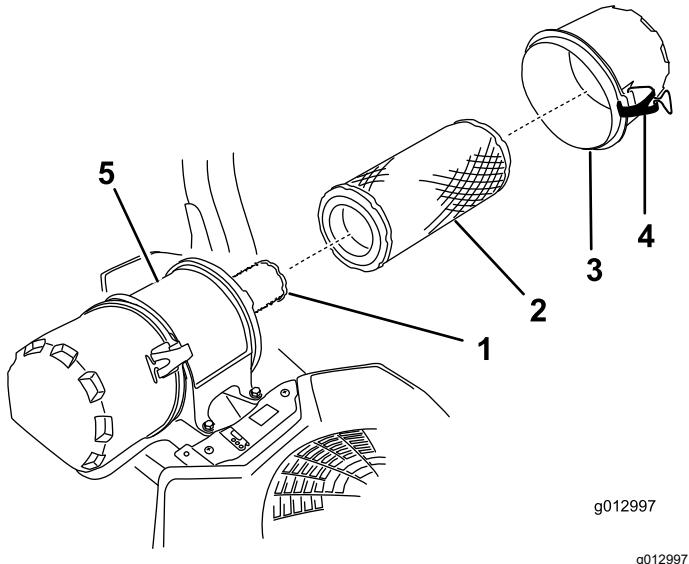

Figure 38
6. Release the latches on the air cleaner and pull the air-cleaner cover off the air-cleaner body (Figure 38).
8. Gently slide the primary filter out of the air-cleaner body (Figure 38).
2. If you are replacing the inner filter, carefully slide it into the filter body (Figure 38).
3. Carefully slide the primary filter over the safety filter (Figure 38).
4. Install the air-cleaner cover and secure the latches (Figure 38).